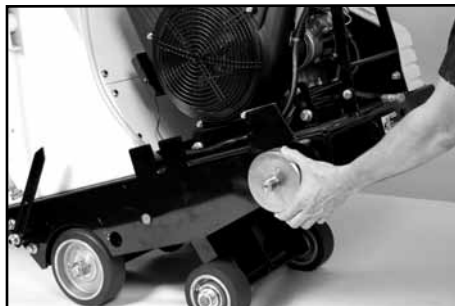

Fig. 9 Remove Outer Flange
3. Remove outer flange (Figure 9).